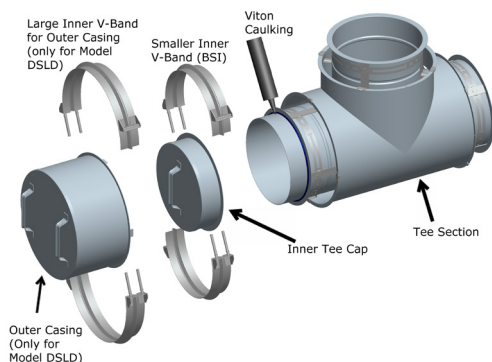

Figure 40a: Step 1 (only for Horizontal installation) Installation of the TC
STEP 1- (only for horizontal installation): Add Viton® Caulking over the Viton O-ring Gasket. See **Figure 40a**.
See **Figure 40a** or **40b**.